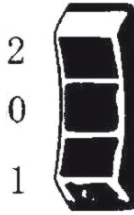

fig 1
4.4. Temperature setting. The desired temperature can be set with switch (fig 1). The ideal temperature should first be ascertained by performing a test. You should therefore start with a low temperature setting. The temperatures specified in the illustrated examples of use are recommended values which can vary depending on the properties of the workpiece. The distance between the nozzle and workpiece is dependent on the material to be processed.